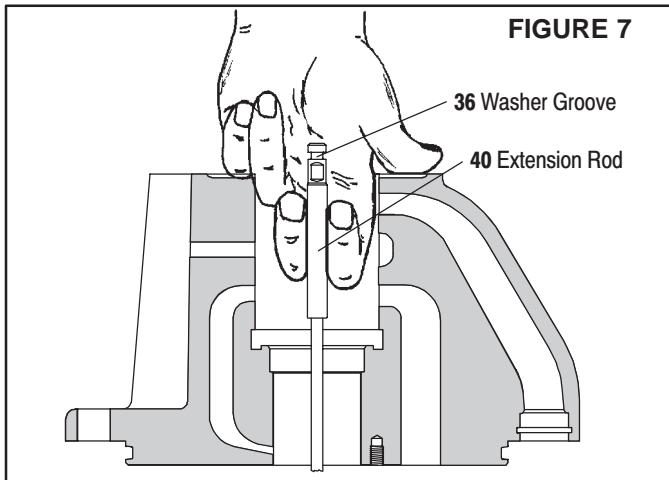

FIGURE 7
26. Place the (44) washer over the (40) extension rod.
27. Pull the (40) extension rod up and grasp with two fingers (see figure 7).
28. Place the 873157 installation tool over the (40) extension rod, with the turned diameter down and the chamfer up.
29. Fit the turned diameter of the 90350 installation tool into the bore in the bottom of the (18) head assembly.
30. Place the (42) piston adapter down over the (40) extension rod, with the threads up.
31. Insert the (36) washer into the groove in the top of the (40) extension rod.